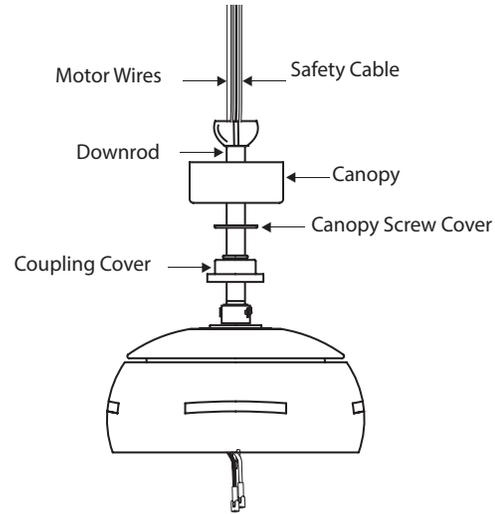

FIGURE 10
1. Slip the coupling cover, canopy screw cover (painted side face down), and canopy (opened side up) onto the downrod (Fig. 10). Coupling cover goes all the way to the bottom.
2. Carefully reinstall the hanger ball onto the downrod, being sure that the cross pin is in the correct position, the screw is tightened and wires are not twisted (Fig. 10).